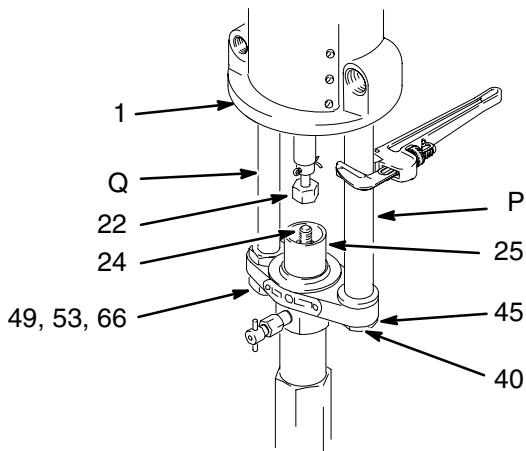
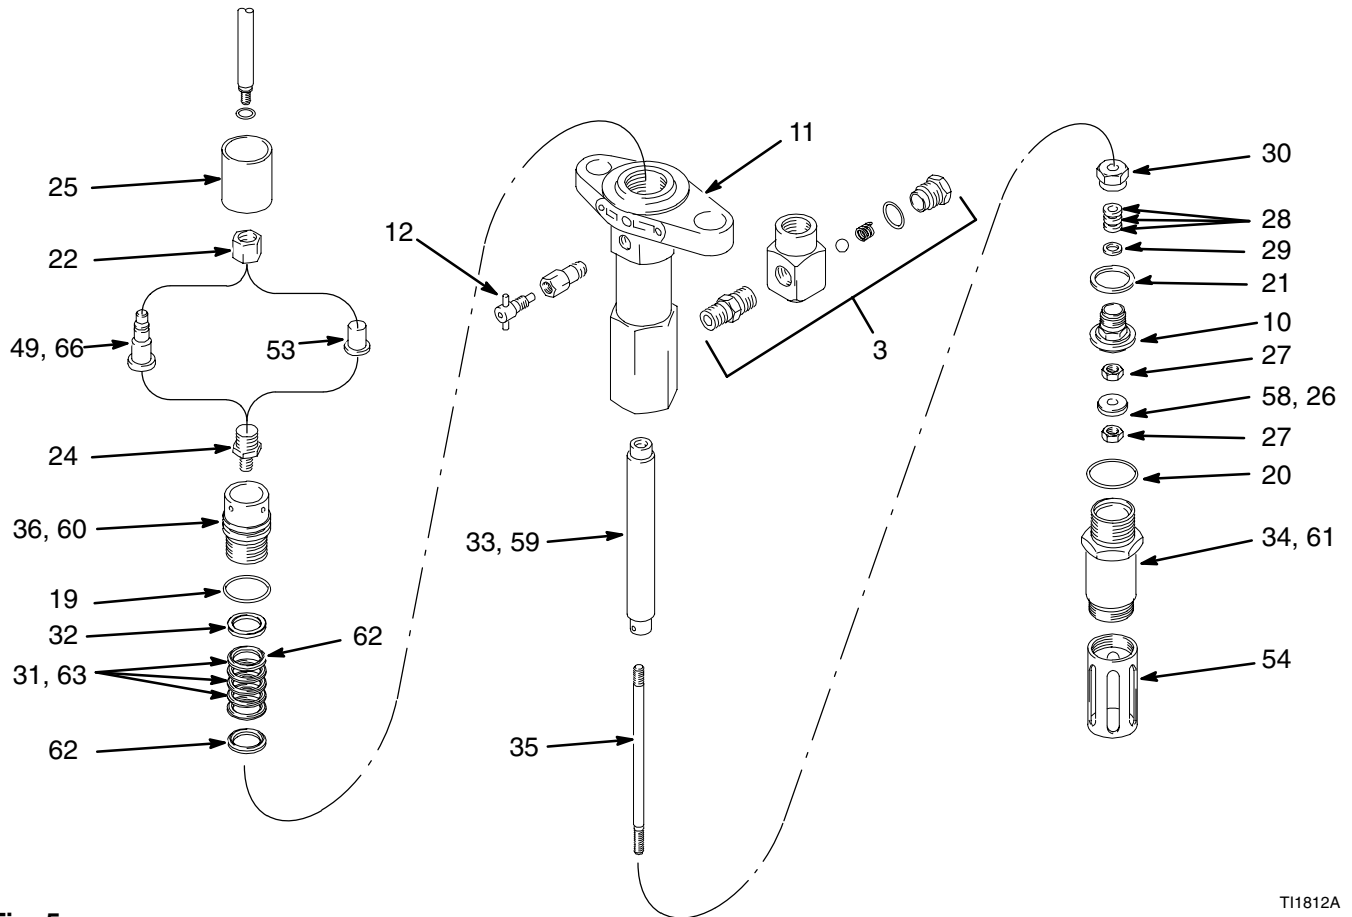

Fig. 4
Fig. 5
2. Unscrew the coupling nut (22) from the stud (24) and the stud from the displacement rod (33 or 59). Loosen the setscrews (40) in large locknuts (45) and remove the locknut from the large mounting tubes (P). See Fig. 4. If the mounting tubes are to be replaced, wrench the tubes close to the air motor base as shown in Fig. 4 to prevent thread damage.
3. Unscrew the booster cylinder (34 or 61) from the pump housing (11) and pull the booster rod (35), intake valve assembly, and displacement rod from the bottom of housing.
4. Unscrew the locknuts (44, 45), remove the priming piston (26 or 58) from the booster rod, and pull the intake valve from the booster rod. See Fig. 5. If the valve is seized in the housing, squirt penetrating oil around threads and gently tap around housing with a hammer to loosen.
5. Remove the wet-cup (25), unscrew the packing nut (36 or 60), and remove the o-ring (19), packings (31**, 32**, or 62**, 63**), and the backup (62**) from the throat cavity. See Fig. 5.